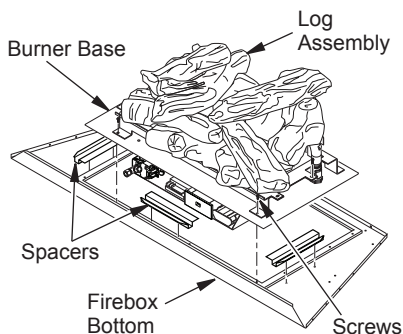

Figure 30 - Removing/Installing Burner Base
4. Remove 3 spacers from firebox bottom (see Figure 30).
6. Remove 2 screws from front and sides of firebox burner base. Lift entire base from unit by pulling forward to disengage from rear flange and then lifting up (see Figure 30).